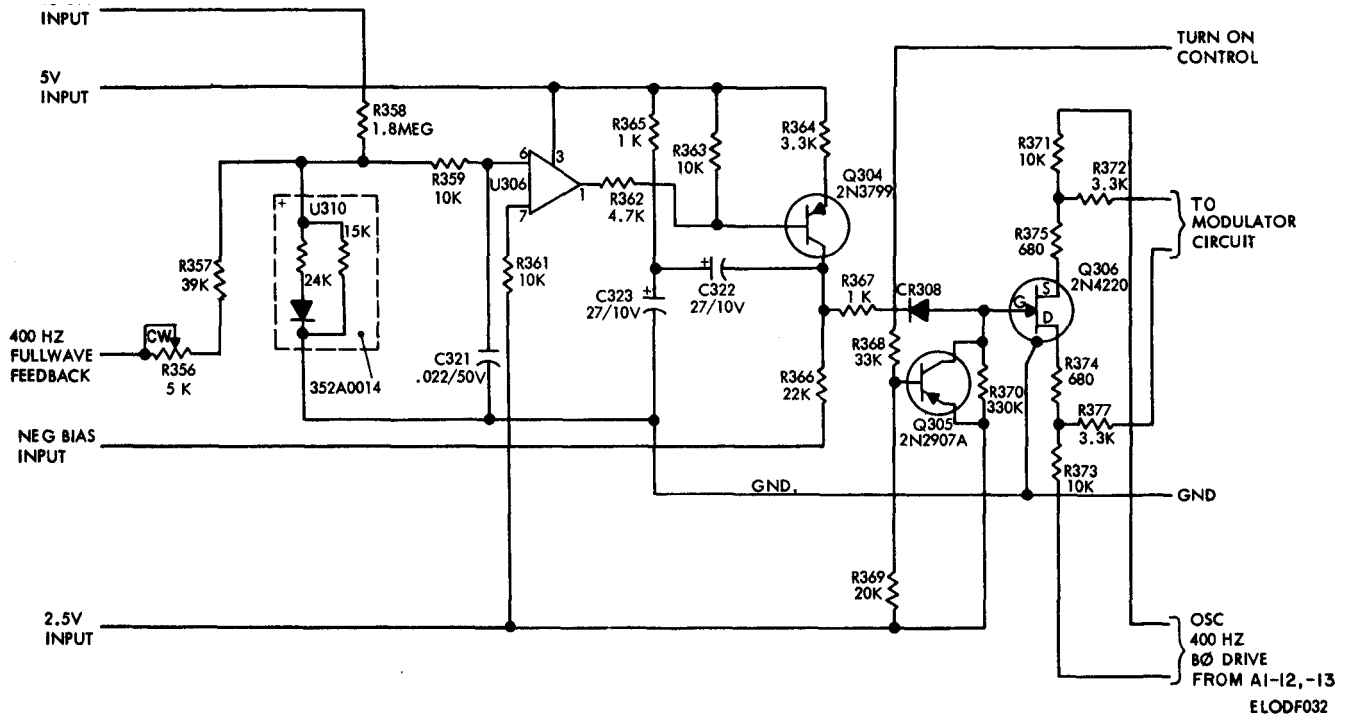

Figure 3-17. Output voltage control - B phase and C phase.
c. The output voltage control circuit (fig. 3-17) receives the feedback signal. Potentiometer R356 and temperature compensator unit U310 develop the signal. The signal is then delivered, with dc input, to comparator U306. Transistor Q304 functions as an integrating amplifier with dc output and is applied to field effect transistor Q306 which controls amplitude